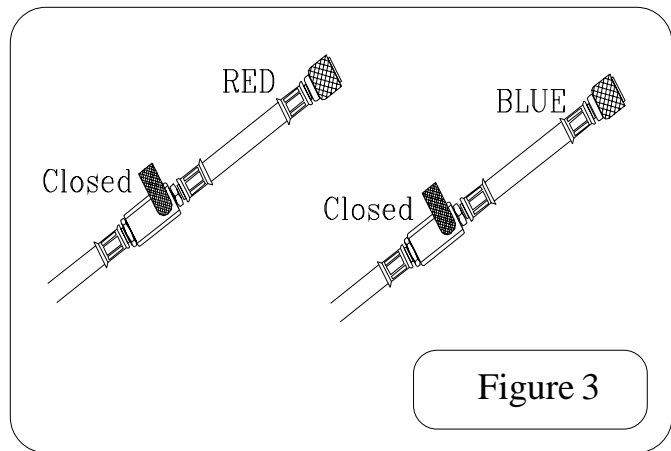

Figure 3
7. Make sure the ball valves at the end of the 96" blue and red hoses (for R-12) are closed. (Refer to Figure 3).